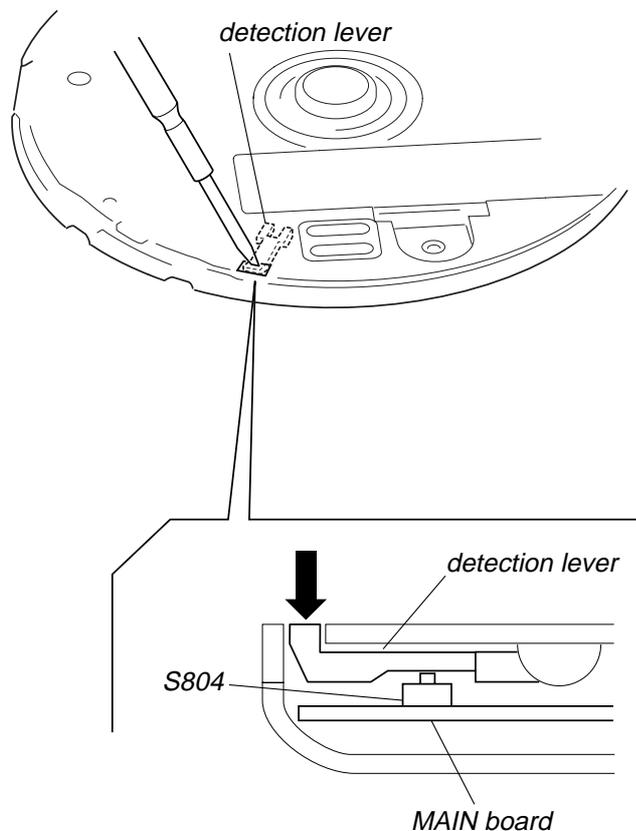

Fig. 1 Method to push the S804
2. With a disc not set, turn on the S804 with a screwdriver having a thin tip as shown in Fig.1.